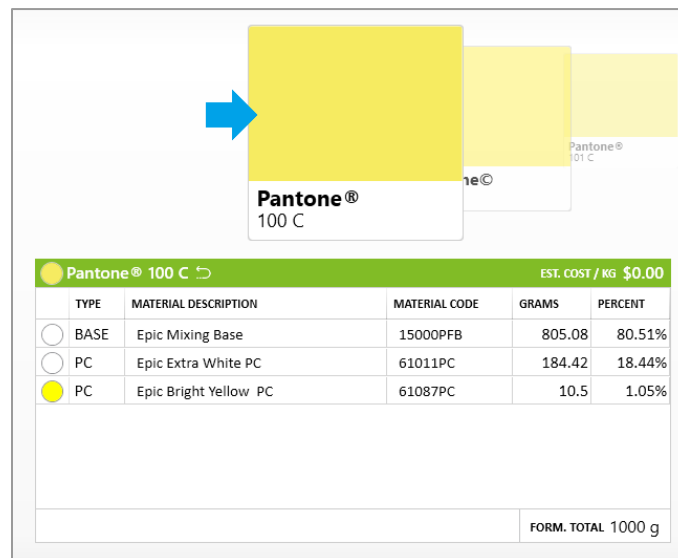

Figure 34 Select formula from Formula Picker
1. First we must select our formula from the Formula Picker. We will continue using Pantone 100C. (Figure 34)